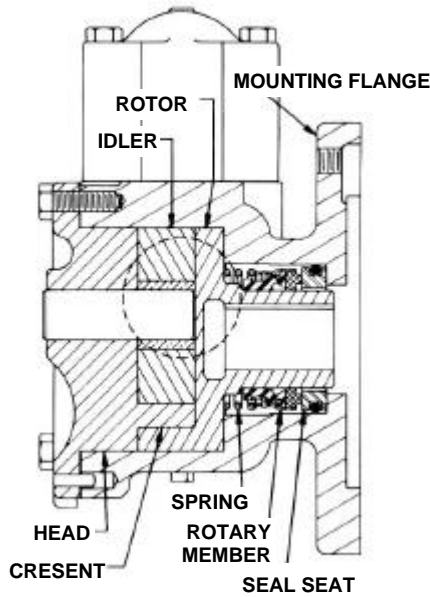

FIGURE 10
To Reassemble Model H475, HJ475, or HL475 Mechanical Seal Pumps: (See Figure 10)
- THE HEAD CAN NOW BE ASSEMBLED ON THE PUMP. Tilt the head away from the pump slightly until the crescent enters the inside diameter of the rotor and rotate the idler until its teeth mesh with the rotor teeth. Do not damage the head gaskets. Note correct position of idler and crescent. Refer to figure 10 and disassembly step 2.